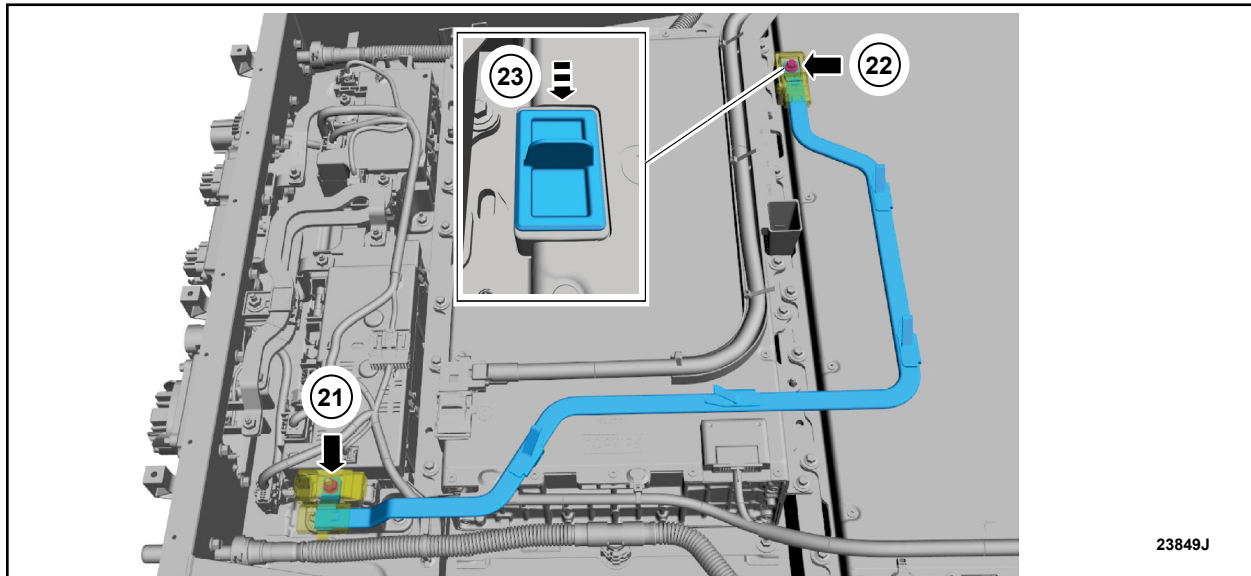

FIGURE 9
22. Open the terminal cover and remove the bus bar nut. See Figure 9.
23. Open the terminal cover, remove the bolt and the bus bar. See Figure 9.
24. Install the battery module terminal cover. See Figure 9.